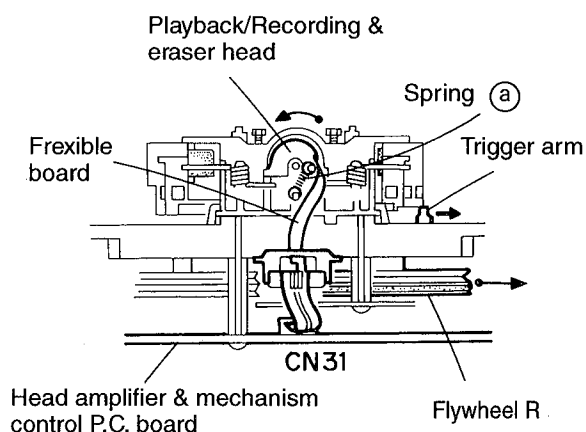
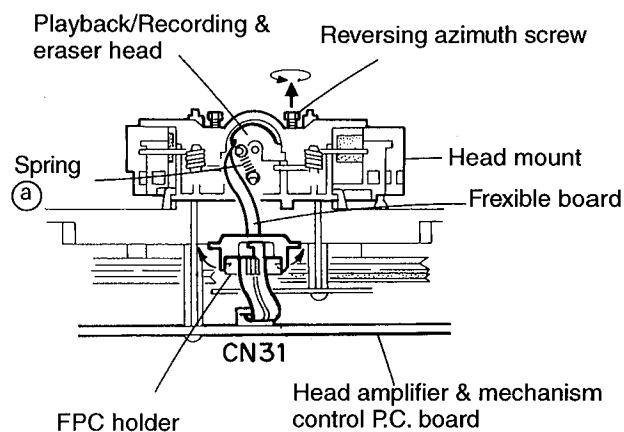

Fig. 5-20
Fig. 5-21
2. When the flywheel R is rotated in counterclockwise direction, the playback/Recording & eraser head will be turned in counterclockwise direction from the position in Fig. 5-20 to that in Fig. 5-21 .